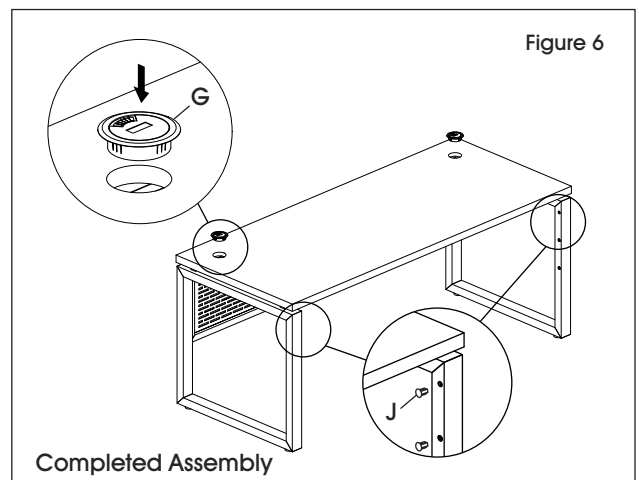

Figure 6
- Insert two grommet caps (G) into the desktop. Insert six leg caps (J) into the leg frames. (See Figure 6)